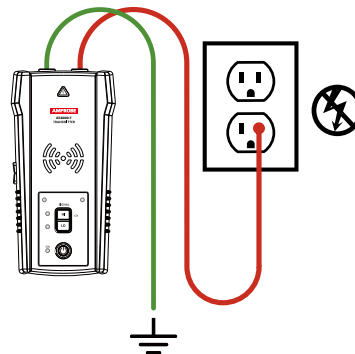

Figure 3.2a: Proper connection with
2. Using provided test leads, connect the green wire to a separate ground (metal building structure, metal water pipe, or ground wire on a separate circuit) (Figure 3.2a).